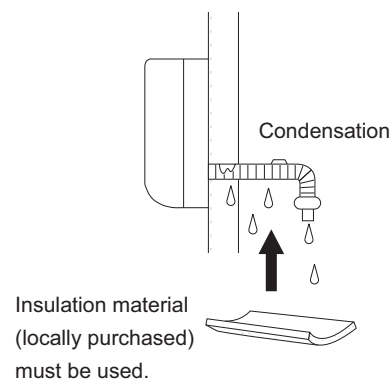

Fig. 2-229
- c) If the drain hose will run in the room, insulate the hose with insulation* so that chilled condensation will not damage furniture or floors. (Fig. 2-229)